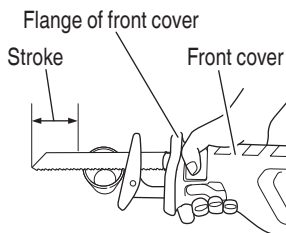
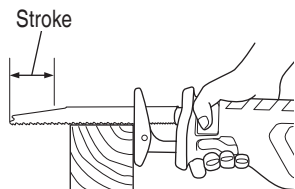

Fig. 12
Fig. 13
- Do not remove the front cover (refer to Fig. 1). Hold firmly the front cover by hand to operate. But, do not extend your hand or finger beyond the flange (see Fig.12) of front cover to avoid an injury.
- Select a saw blade of the most appropriate length. Ideally, the length protruding from the base of the saw blade after subtracting the stroke should be larger than the material (see Fig. 12 and Fig. 13)